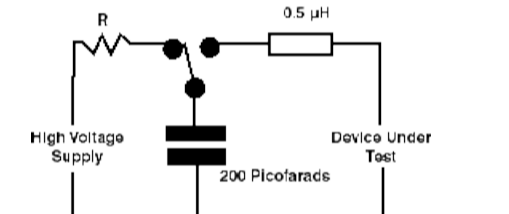

Figure 2: Typical Machine Model Circuit
- A discharge similar to the HBM event which can occur from a charged conductive object, such as a metallic tool or fixture. This ESD model consists of a 200 pF capacitor discharged directly into a component with no series resistor. Figure 2 describes a typical DUT bench: